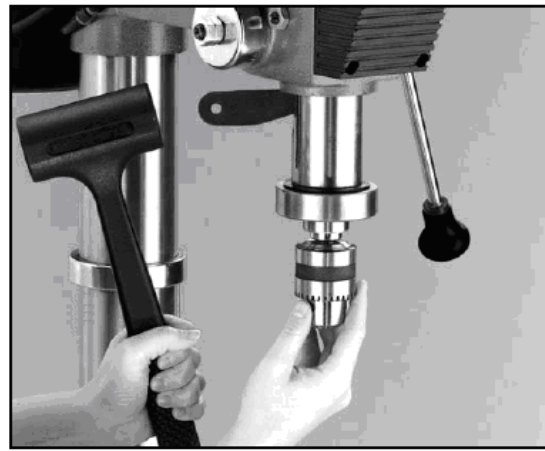

Figure 12(Without chuck guard)
3. Insert the drift key into the slot and allow the quill to rise, trapping the drift key. Hold the drill chuck with one hand and tap on the drift key with a hammer as shown in **Figure 12**.